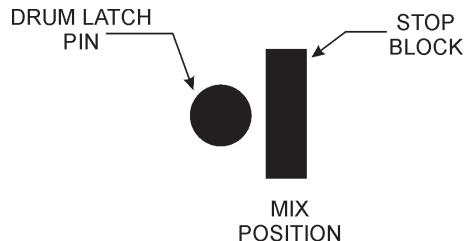

Figure 21. Drum Lock Pin (Left Position)
4. When charging, mixing, or dumping a batch of plaster or mortar the **drum lock pin** should be placed to the **left** (when viewing the mixer from the towpole end) of the drum stop block which is welded to the front side of the drum. See Figure 21.